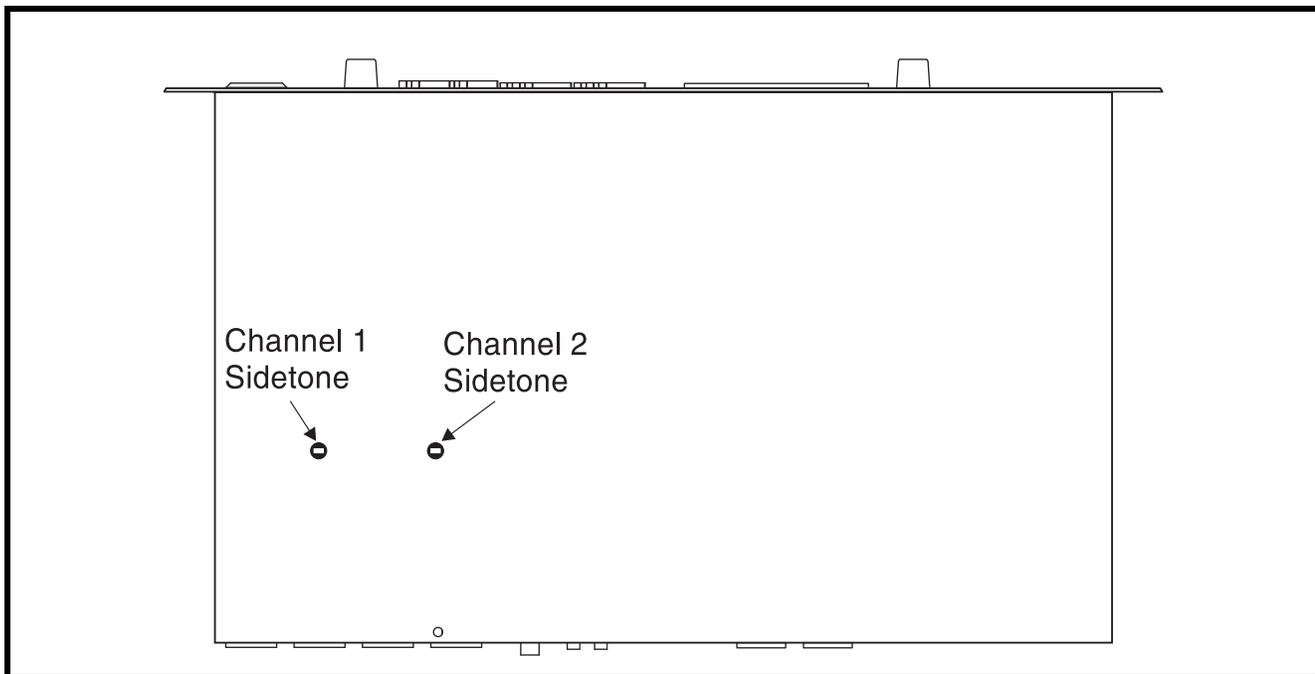

FIGURE 8. MS-2002 Bottom View
The MS-2002 uses full-duplex audio (the same as a conventional telephone line) in which the talk and listen audio are sent and received on the same line. Thus, when you talk on a channel, you will also hear your own voice back in the speaker or headphones. This is called **sidetone**. If you are using the MS-2002 with a microphone and speaker, sidetone could cause unwanted feedback, since the microphone may pick up your returned voice audio and reamplify it. This could also happen if you are using a headset when the ear cushions do not completely cover the ears, although it is probably much less likely. In either of these cases, you should minimize the amount of sidetone. On the other hand, if you are using headphones that completely enclose the ears, a certain amount of your own voice level is desirable to overcome the muffled sensation when talking. See Figure 8 on page 18, for the adjustment locations.
4. Using a small, flat-bladed screwdriver, adjust the **channel 1 sidetone** through the access hole in the bottom of the MS-2002 (Figure 8) to minimize the tone volume.